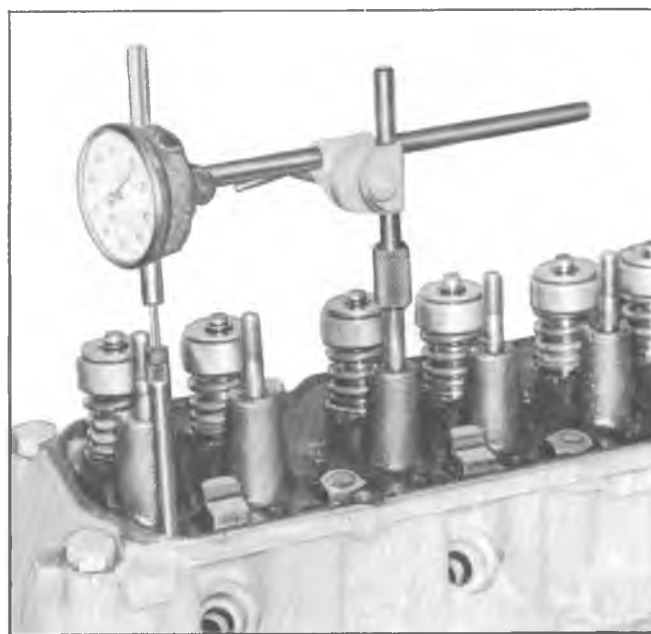

Fig. 15L—Measuring Camshaft Lobe Lift
2. Position indicator with ball socket adapter (Tool J-8520) on push rod (fig. 15L).